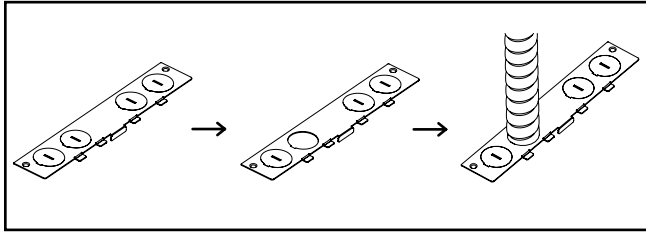

Figure 13.
8. Remove the knockout, and then install incoming power wire using flexible conduit. See Fig.13